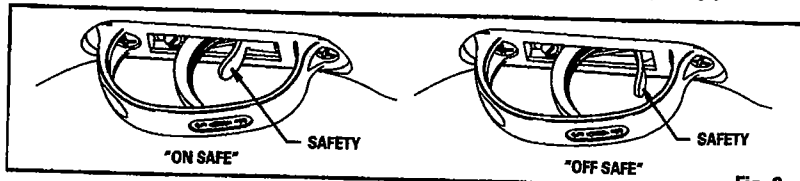

Fig. 2 -
- Locate the safety in front of the trigger. Push the safety towards the trigger to put the safety on. The safety is on, and the airgun is "ON SAFE" when the lever is in the rear position (near the trigger). (Fig. 2)
- Push the safety to the forward position (away from the trigger). When the airgun is "OFF SAFE" it is ready to be fire (Fig. 2)